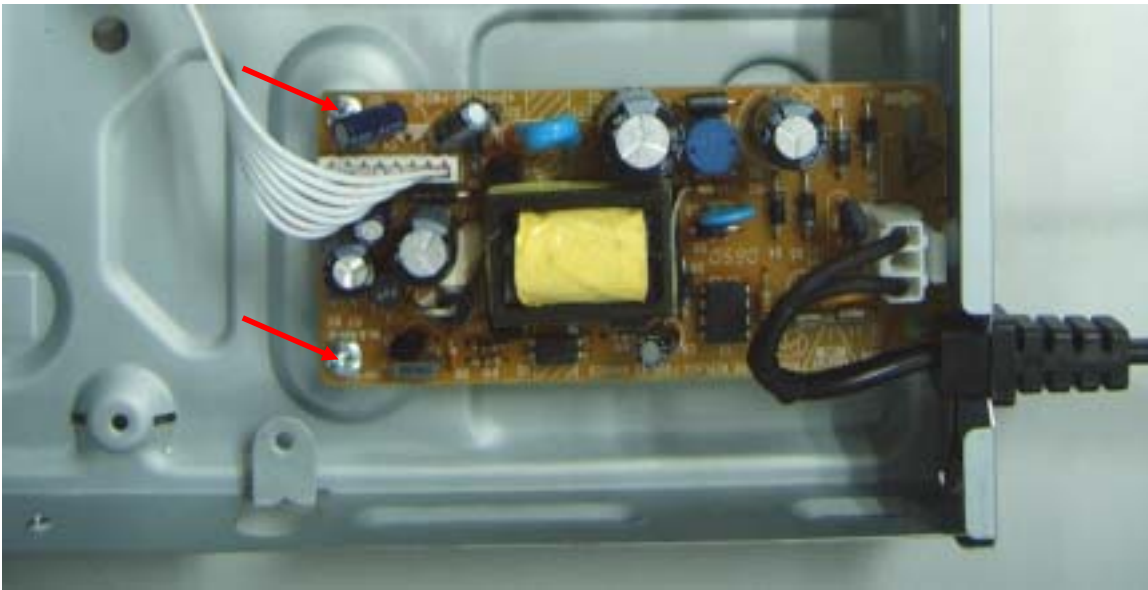

Figure 10
Step8: Remove the 2 screws on Power Board to dismantle the Power Board. (Figure 10)